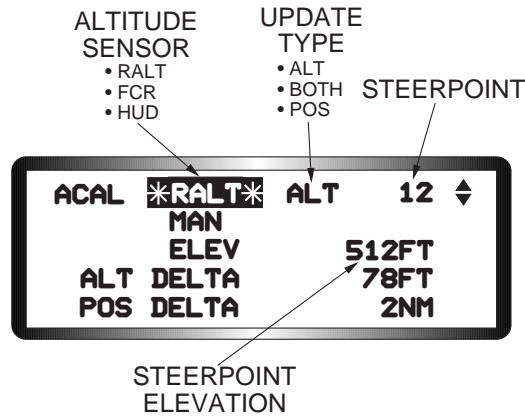

Figure 2-13 ACAL DED Page
To accomplish an ACAL update, the pilot first selects the ACAL DED page (Figure 2-13) by pressing the ACAL button (9) on the ICP. When the ACAL page comes up, the manual ACAL mode is automatically selected as indicated by the highlighted sensor mnemonic. The pilot then selects the ACAL submode (sensor to be used in the update) with any button 1 through 9 on the ICP and also selects the type of ACAL update by using dobbering right to rotary through the ALT (altitude only), BOTH (position and altitude) or POS (position only) options. The known Elevation (ELEV) must be entered for the sighting point or steerpoint. To deselect/select manual ACAL, the pilot presses the M-SEL button on the ICP.